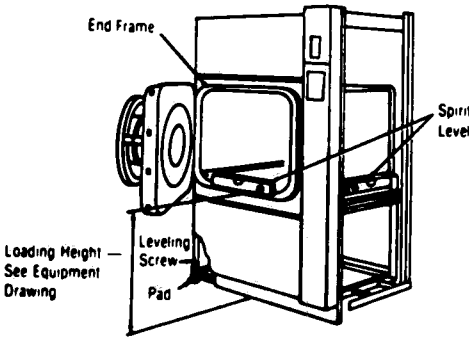

FIGURE 5-1 – Leveling the Washer/Sterilizer
- 1. Check that washer/sterilizer is level side-to-side by placing a level on the bottom of the end ring in door opening. Then check that it is level front-to-back by placing a level on angle brace supporting right side of shell. Adjust leveling feet accordingly to achieve level conditions. See Figure 5-1.